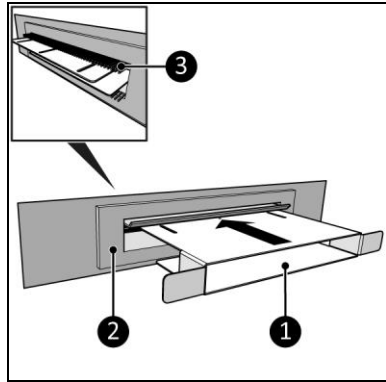

Figure 2
1. Open the mailbox (Figure 2, pos. 2) and insert the transit (Figure 2, pos. 1). The transit will push away the hair strips (Figure 2, pos. 3) of the mailbox to ensure there is enough space for the Way-out.